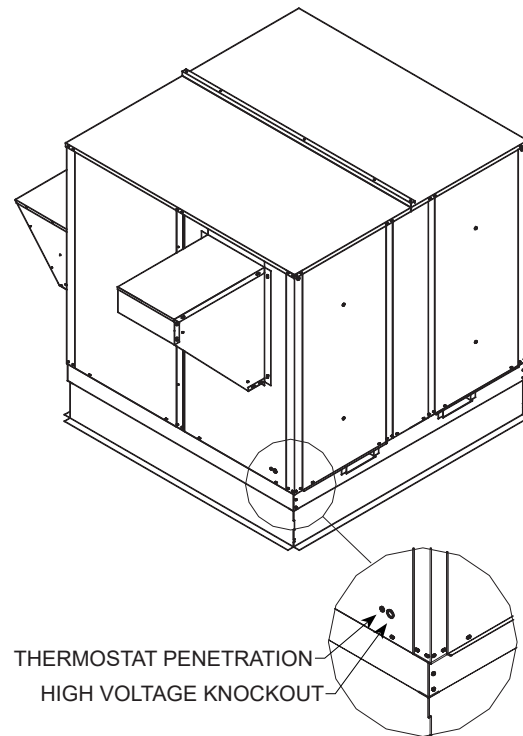

Figure 3
3. Route Class II low voltage wire (3 conductor) from thermostat, relay, or Energy Management through small bushing provided in the end panel in the ERV. **See Figure 3** for location of penetration.